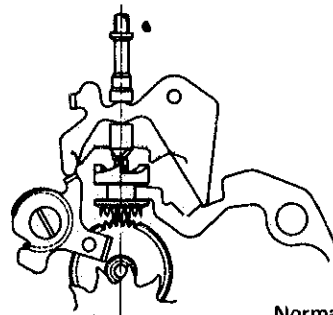

Fig. 1
- ☆ 884005 (Refer to fig. 1) Used only for the one-piece waterproof case.
- Crown: Normal position — Free condition (Fig. 1)